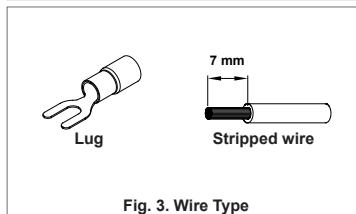

Fig. 3. Wire Type
- Use flexible cable (solid), AWG No. 18-16. The torque at the Connector shall not exceed 13 Kgf.cm. The insulation stripping length should not exceed 0.275" or 7mm (Refer to Fig. 3).